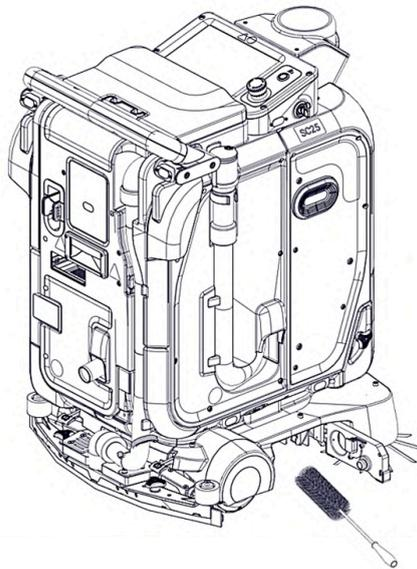

FIGURE 10-14
3. Use the manual cleaning brush to clean (**Fig. 10-14**) the underside of the brush deck (**Fig. 10-15**).